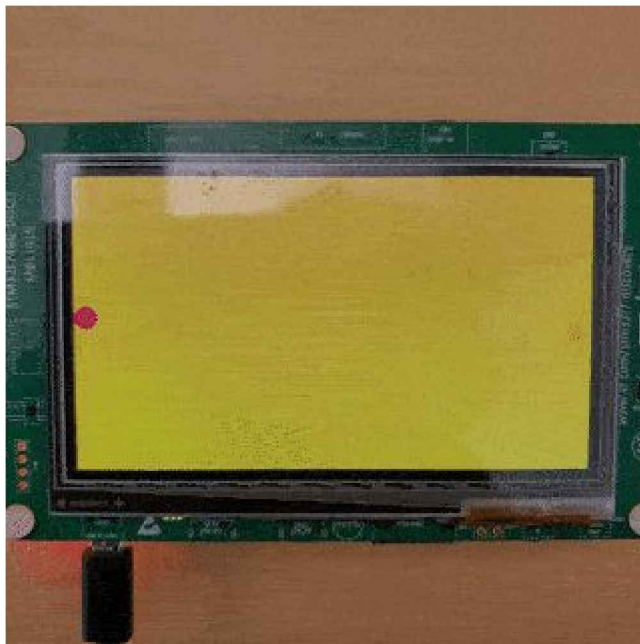

Figure 6-16. The code running on an STM32F746G Discovery kit, which has an LCD display
**Figure 6-16** shows a still from an **animated .gif** of the program running.
Figure 6-16 shows a still from an **animated .gif** of the program running.